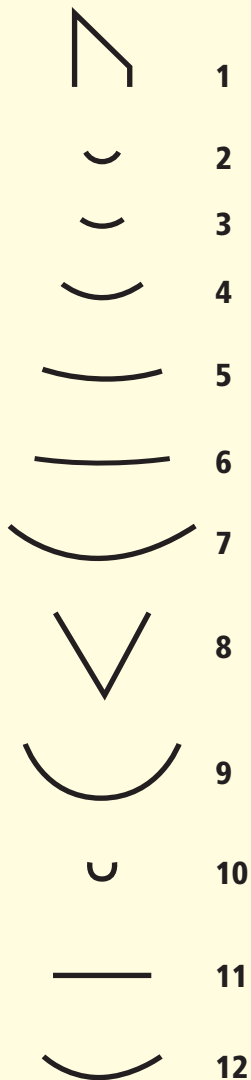

Fig 1
**Fig 1 & 2.** It is recommended that your carvings are created to the exact same dimensions as mine, in order for the 'Carving by Numbers' system to work to its fullest potential. Each project is designed to fit the profiles of the designated carving tool set. Therefore, as each stage of the project is examined, the appropriate tool reference number is given. The objective is to simplify the project into a step-by-step process. When learning to carve, many of my students initially raise concerns about 'not being artistic', or 'finding difficulty with drawing'. In answer, I make a point of explaining that I too once felt devoid of any artistic ability. Drawing is a skill that with time, patience and practice can be developed. Forget the word 'artistic' where we believe this is an innate ability which some people possess and others do not.